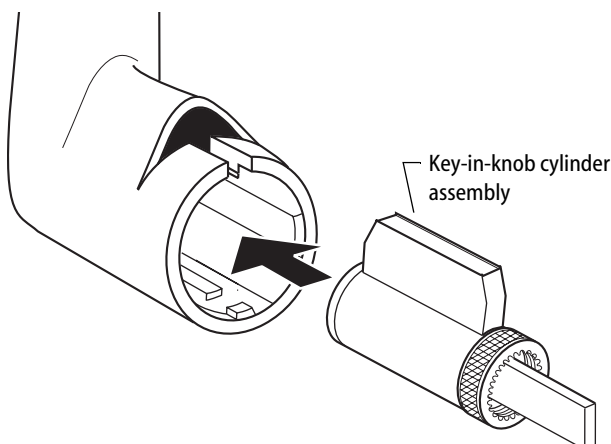

Figure 2 Installing the key-in-knob cylinder assembly
- 4 Install the key-in-knob cylinder assembly into the handle. See Figure 2.